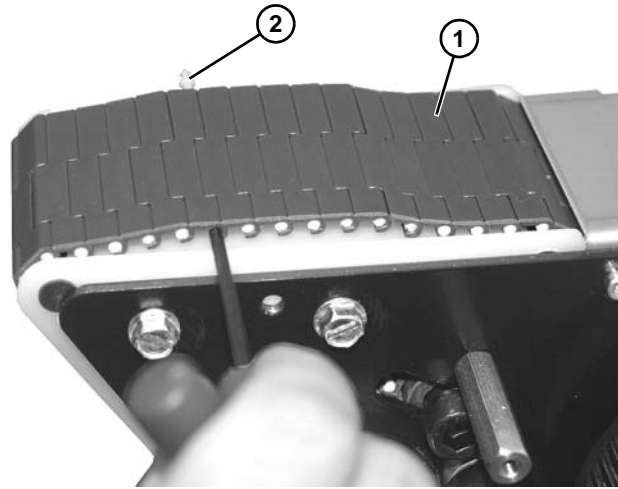

Figure 148
7. Lift slightly on belt (Figure 148, item 1) and push pin (Figure 148, item 2) out of belt.